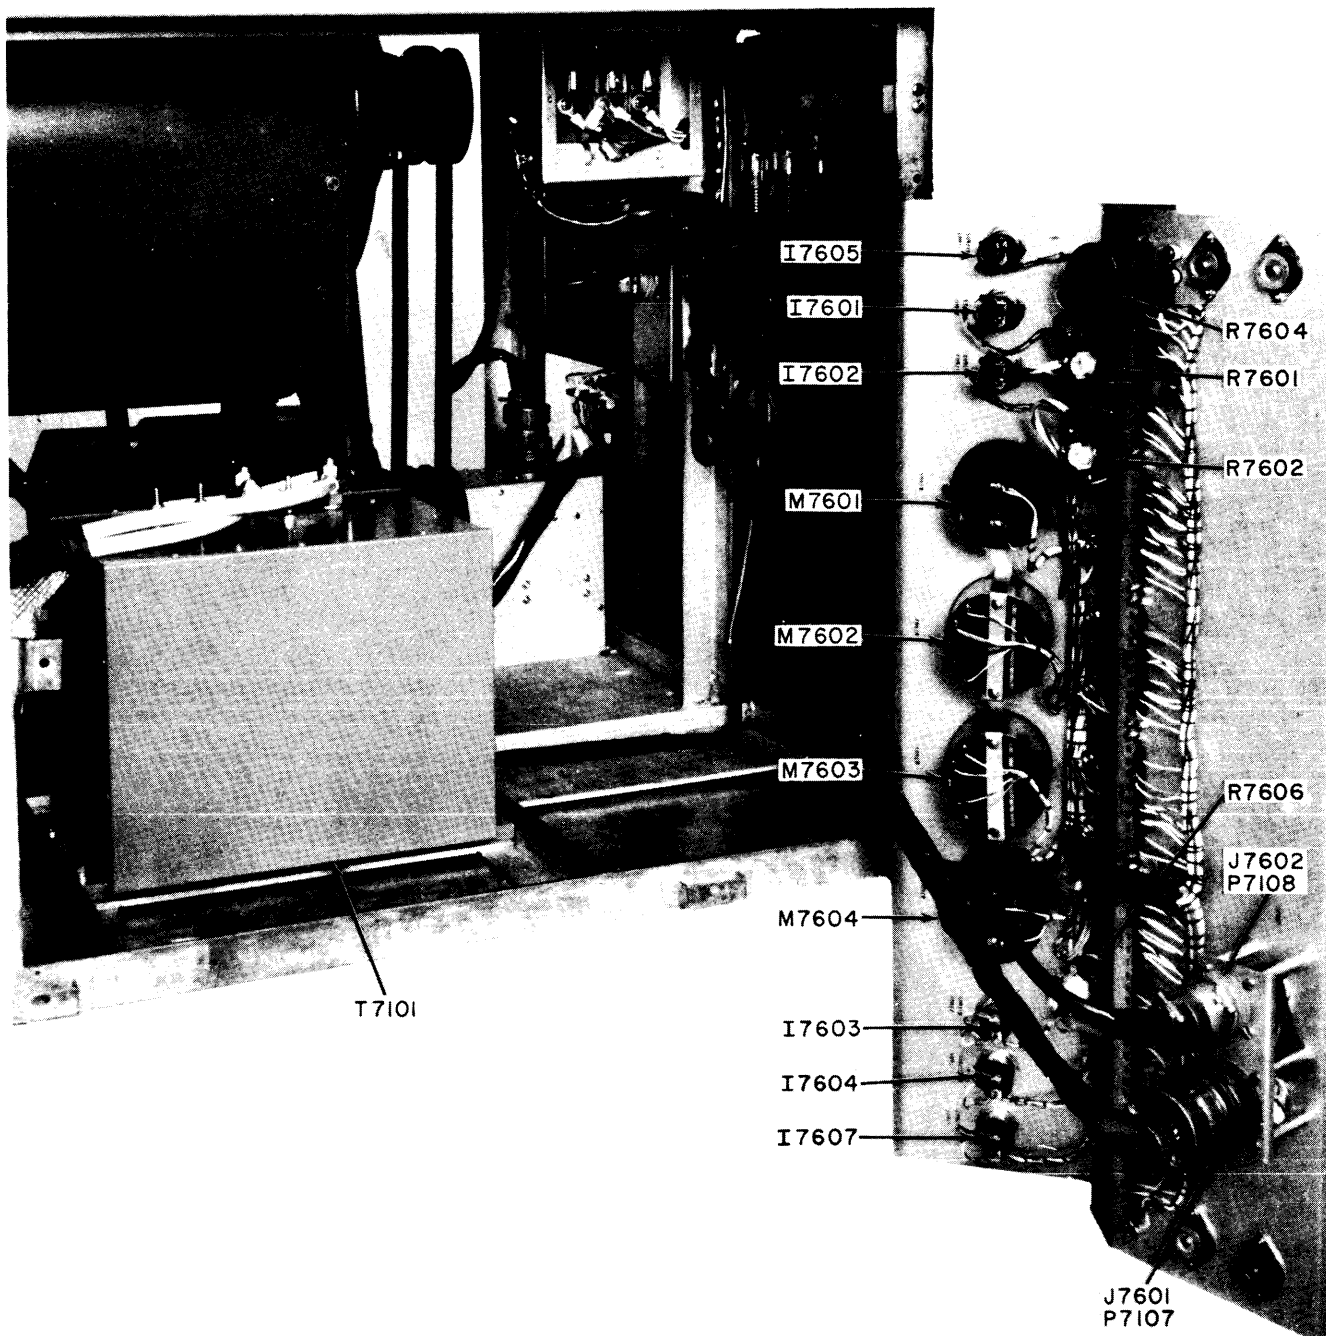

Figure 4-5-8. Rear View with Callouts, Indicator Control Panel, GPT-40K
b. LOCATION DATA. - Figures 4-5-8 through 4-5-10 show views, with callouts, of the principal components mounted on the power supply frame chassis.